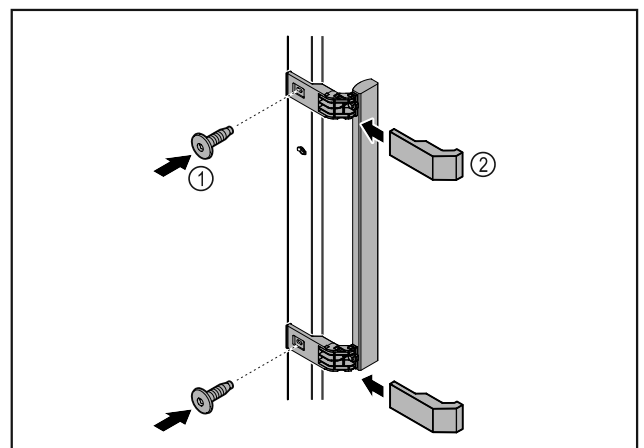

Fig. 3
- ▶ Attach handle from accessory kit to the door using the screws supplied Fig. 3 (1).
- ▶ Put on cover Fig. 3 (2).